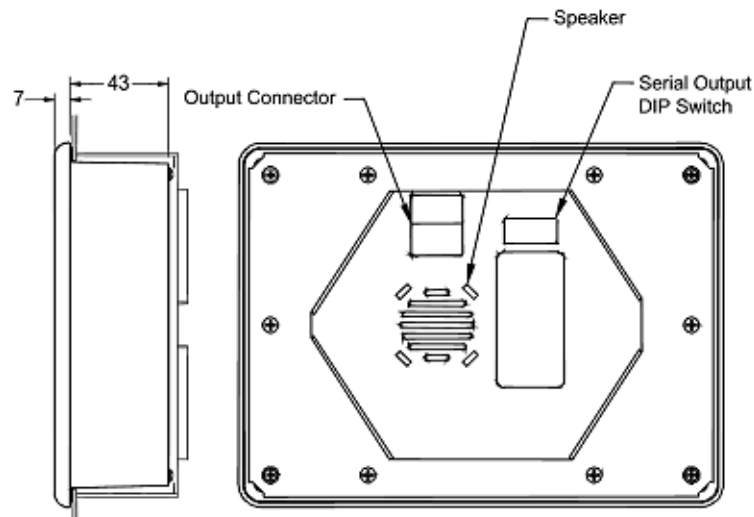

Figure 31
3. On the back of the panel, place the terminal mounting bracket against the back of the terminal, and align it with the back panel. Refer to Figure 31.